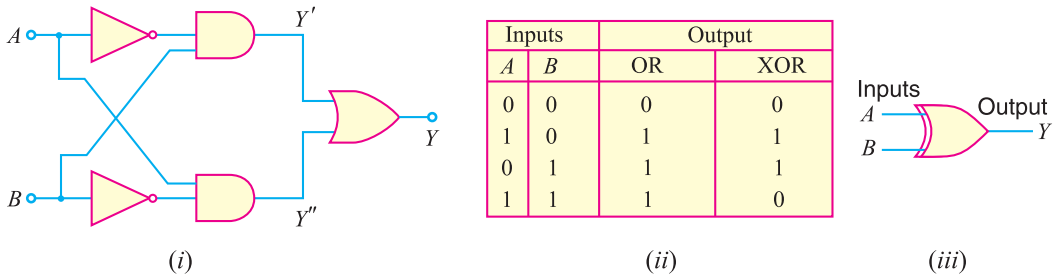

Fig. 26.14
The name exclusive OR gate is usually shortened to XOR gate. The XOR gate can be obtained by using OR, AND and NOT gates as shown in Fig. 26.14 (i).
Fig. 26.14 (ii) shows the truth table for XOR gate. The table shows that the output is HIGH (1) if any but not all of the inputs are HIGH (1). This *exclusive* feature eliminates the similarity to the OR gate. The OR gate truth table is also given so that you can compare the OR gate truth table with XOR gate truth table. The logic symbol for XOR gate is shown in Fig. 26.14 (iii). Note that the symbol is similar to that of OR gate except for the additional curved line at the input side.